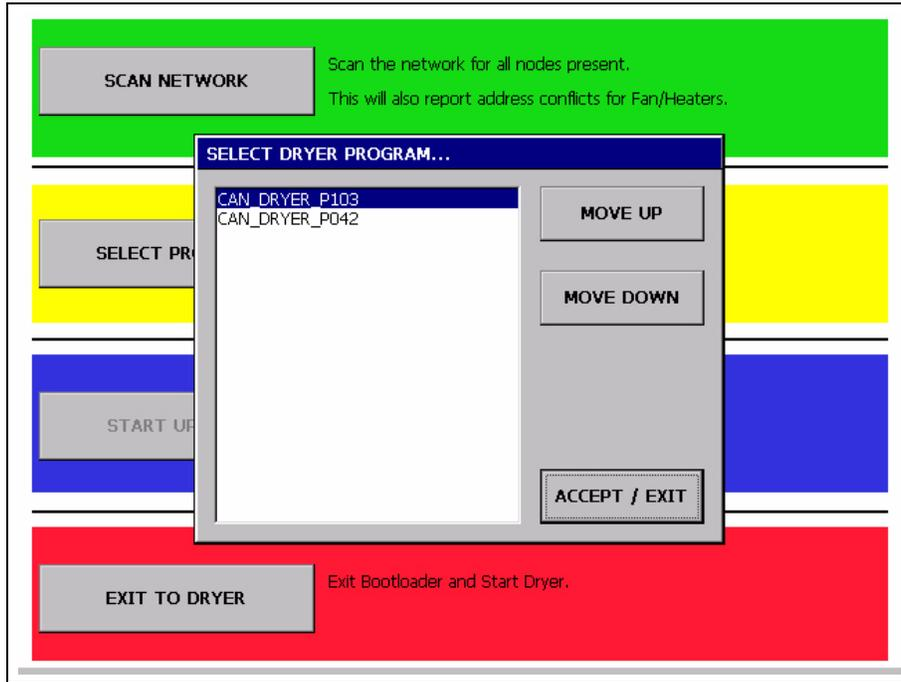

Figure 7
7. Choose the “Select Program” button from the “Boot Loader” screen. (See Figure 7.)